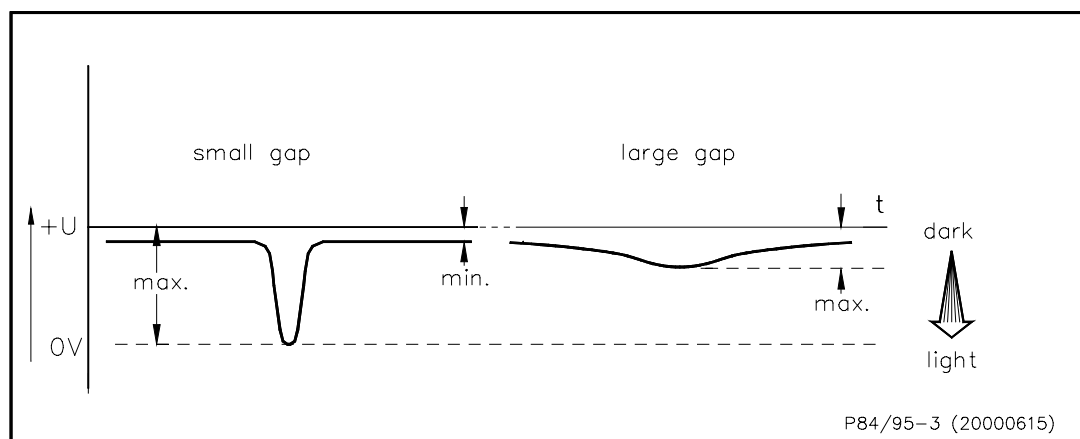

Fig. 3 Output signal as a function of distance
- ◆ The signal from the reference sensor depends on the width and reflecting power of the reference mark and its distance to the reference sensor (see Fig. 3).